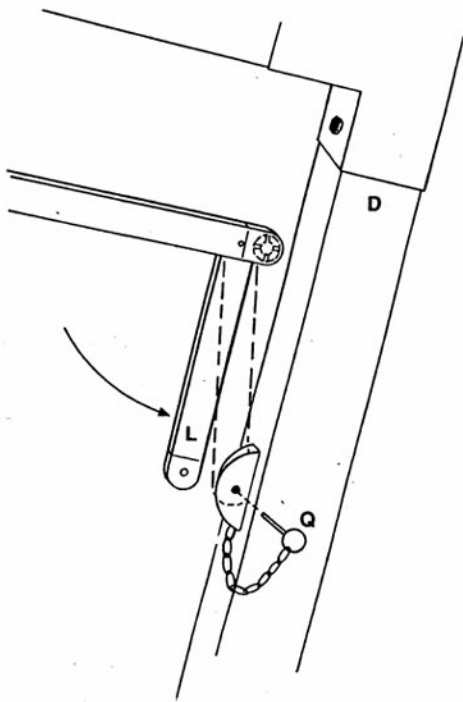

Fig. 5
**IMPORTANT:** (fig. 5) after having opened the umbrella, connect the short stabilizer (L) to its fitting on the frame, using the locking pin (Q).
**IMPORTANTE:** (fig. 5) to avoid damage, release stabilizer rib (L) from the fitting on the frame.